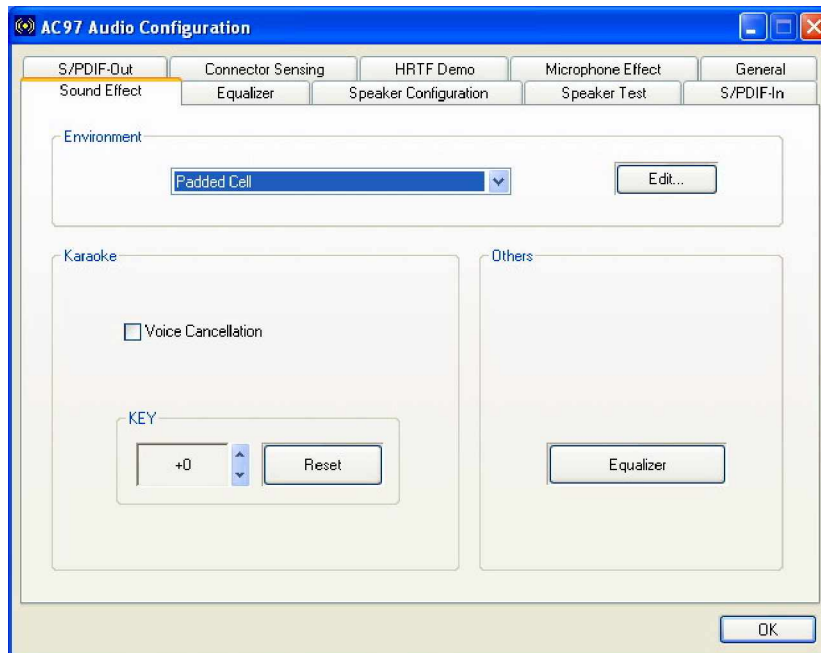

Figure E-4: Sound Effects Manager (ALC655)
Step 3: The sound effect manager appears. (See **Figure E-4**)